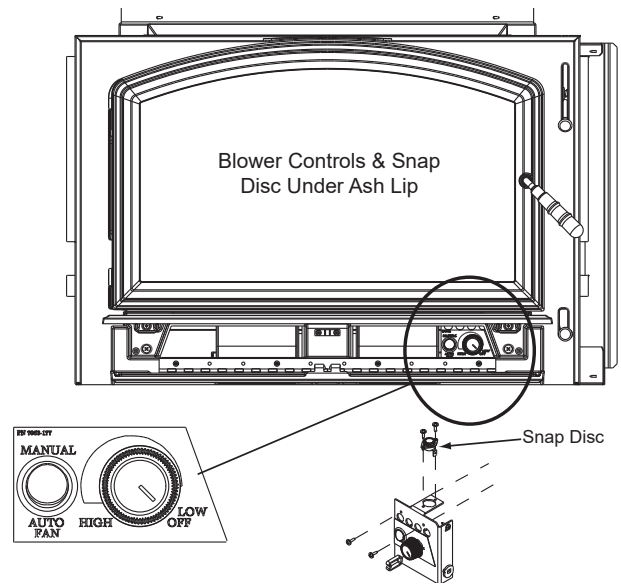

Figure 24.1 - Snap Disc Location
3. Locate the snap disc bracket assembly behind the blower controls on the right side under the ash lip (Figure 24.1).